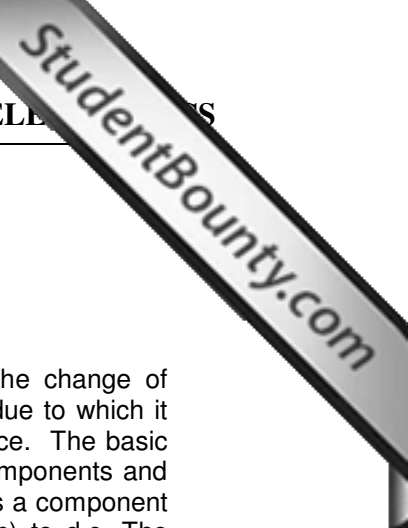

Fig. 78.2
**Capacitors:** The two conducting plates separated by an insulating material (called dielectric) forms a capacitor shown in fig. 78.2 the basic purpose of a capacitor is to store charge. The capacity of a capacitor to store charge per unit potential difference is called its capacitance. The unit of capacitance is farads (F). A capacitor is a component which offers low impedance to a.c. but very high impedance to d.c. Capacitors are used for coupling, bypassing and filtering.